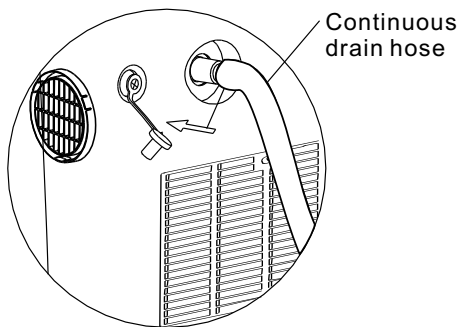

Fig.19
- Remove the rubber plug at the back of the unit and attach a hose to the drain outlet. Place the open end of the hose directly over the drain area in your basement floor (See Fig. 19 & 20).